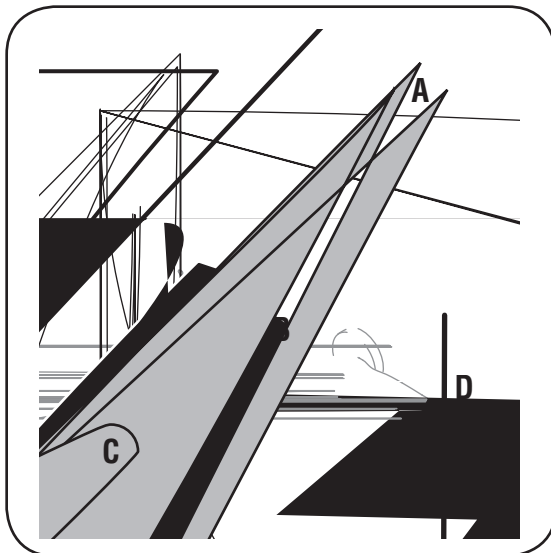

Figure 3-3: Pull recoil starter through rope guide and tighten.
4. The rope guide is attached to the right side of the upper handle. Loosen the wing nut which secures the rope guide, Figure 3-3.